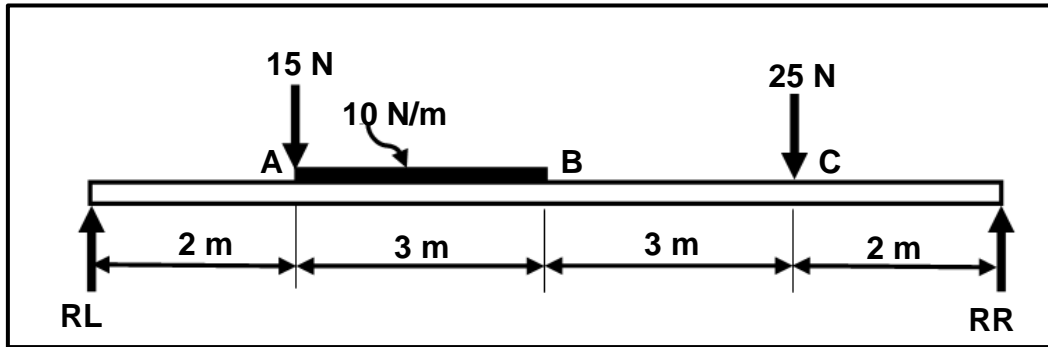

FIGURE 7.1
7.1 FIGURE 7.1 below shows a beam supported by two vertical supports, **RL** and **RR**. Two vertical point loads, 15 N and 25 N, are exerted onto the beam. A uniformly distributed load of 10 N/m is exerted over a length of 3 m.